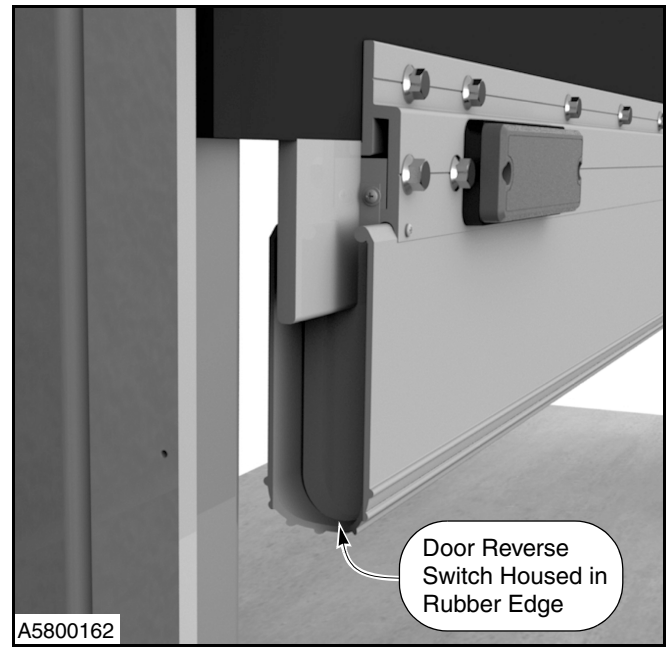

Figure 13
3. When the door is a few feet from the fully closed position, hit the rubber reversing edge that runs along the bottom edge of the door. Stand outside the photo eyes to avoid activating the photo eye circuit. (See Figure 13.)